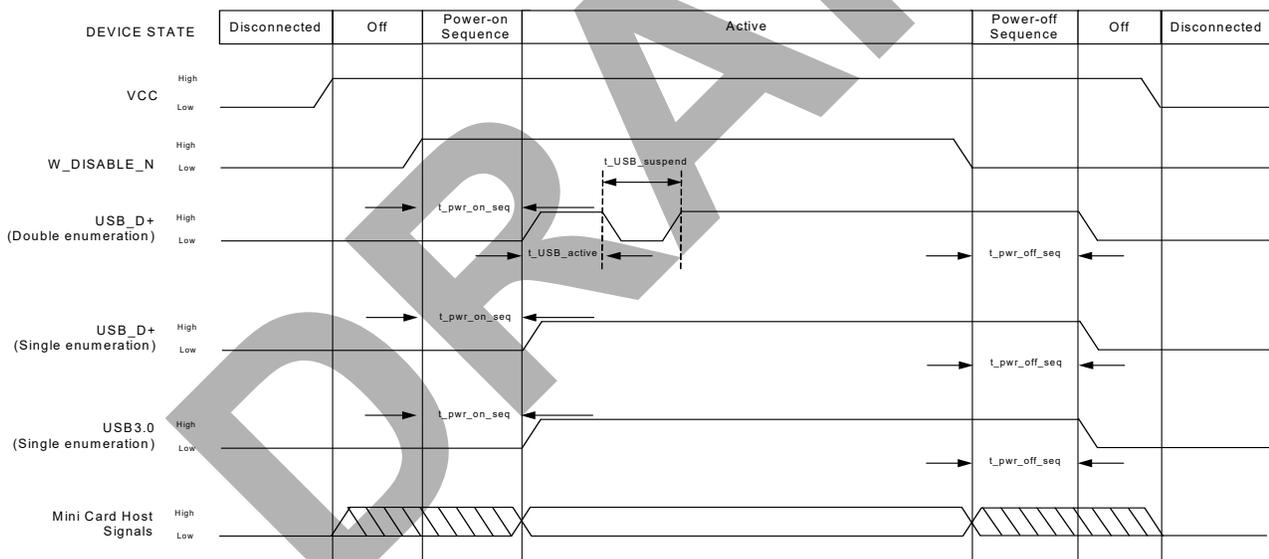

Figure 4-2: Signal Timing ( $W\_DISABLE\_N$ , and USB Enumeration)
Figure 4-2 describes the timing sequence for powering the module on and off.
- Double enumeration—As shown in Figure 4-2 on page 42: